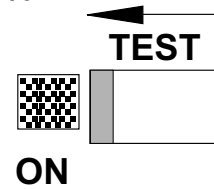

Figure 17. Test Switch
1. Next, make sure the **TEST** switch (Figure 17) is placed in the test position.